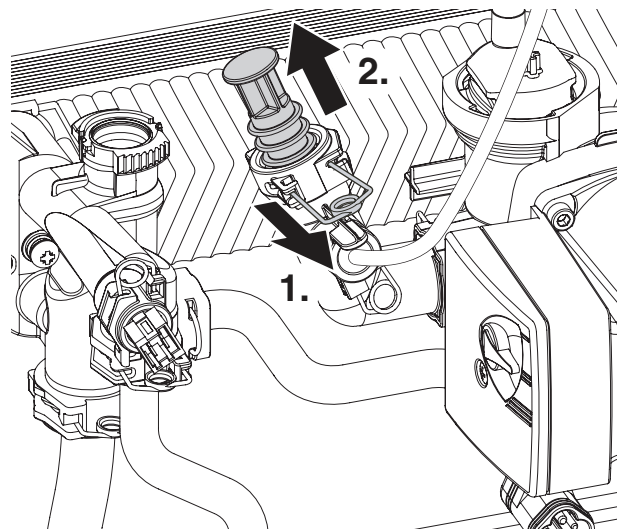

Fig. 32 Blanking plug
1. Refer to figure 32, release the retaining clip.